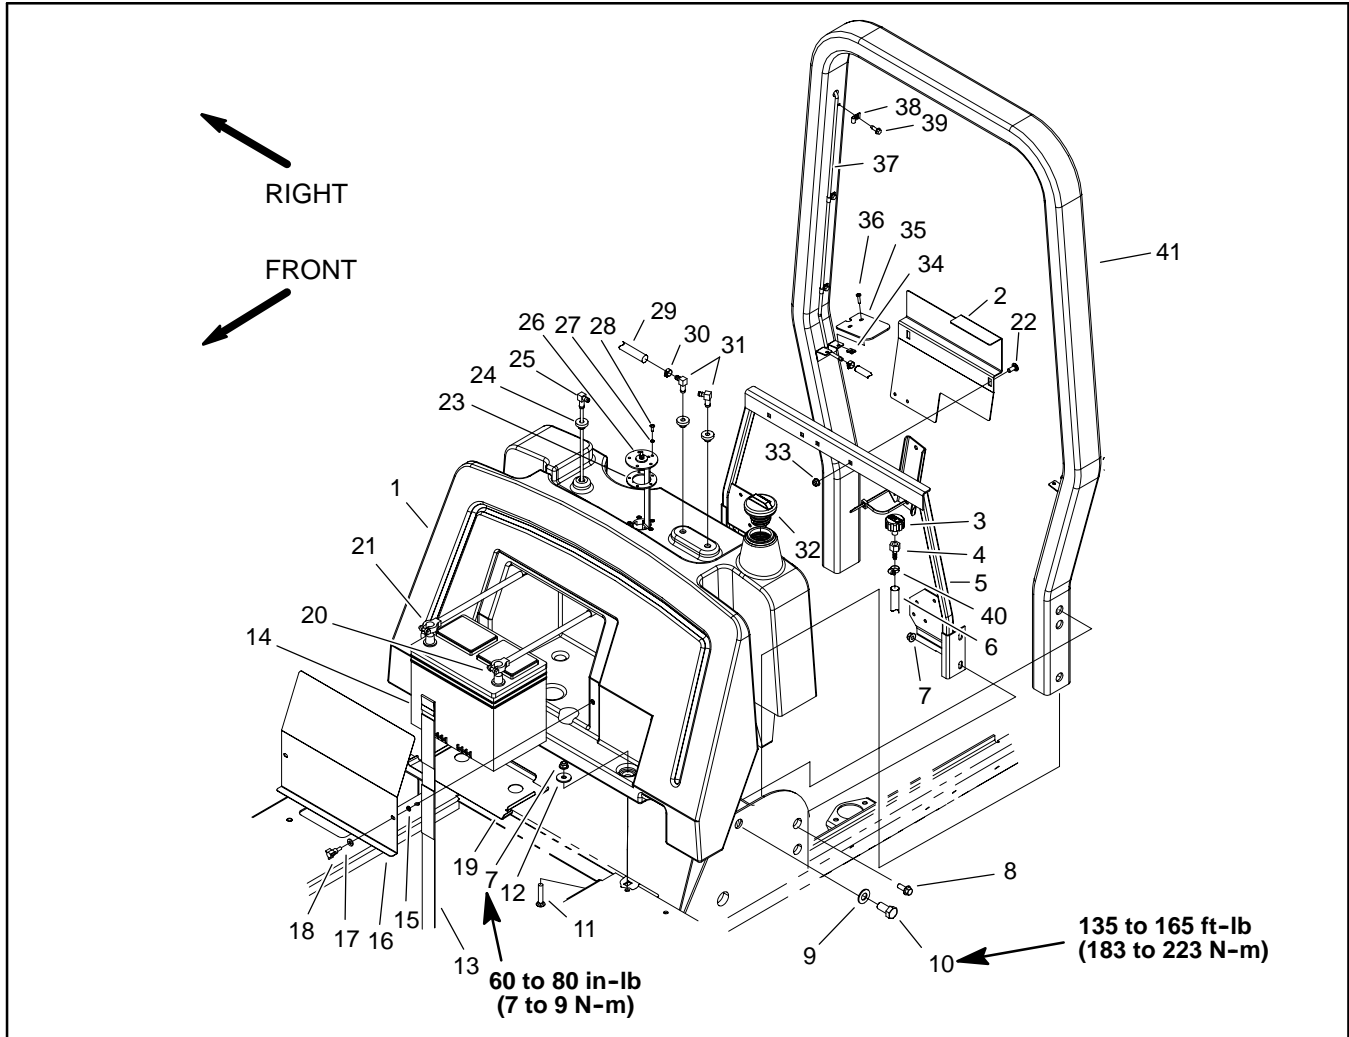

Figure 7
Fuel Tank Removal (Fig. 7)
7. Remove phillips head screws that secure two (2) tank covers to ROPS assembly. Remove tank covers.
8. Remove fuel tank using Figure 7 as a guide.
Fuel Tank Installation (Fig. 7)
1. Install fuel tank using Figure 7 as a guide.
- A. Torque two (2) flange nuts that secure the fuel tank to the frame from **60 to 80 in-lb (7 to 9 N-m)**.
2. Install two (2) tank covers to ROPS assembly.